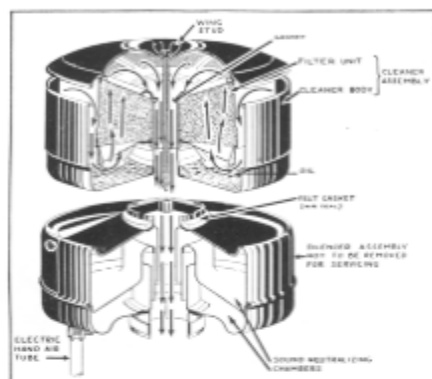

Figure 9
1. Remove wing stud, Figure 9.
The use of a special Oil Bath Carburetor Air Cleaner, Figure 9, which is available as a factory option or may be purchased from any Hudson-Terraplane Dealer will help considerably in protecting the carburetor and engine from premature wear. The frequency with which the air cleaner should be cleaned and re-oiled depends, of course, upon local dust conditions. The protection which this type of air cleaner affords will be appreciated by noting the accumulation of dust and dirt found in the air cleaner oil reservoir just below the filter unit.